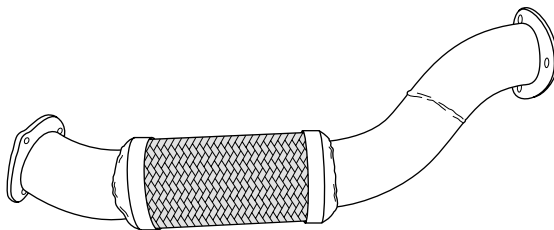

Figure 15-19:
- **A flex pipe.** This is a braided steel section of exhaust piping designed, as the name implies, to allow the exhaust piping to flex in order to prevent vibration and movement from cracking the piping itself, or spreading up to the manifold and cracking that. Figure 15-19 illustrates a flex pipe.